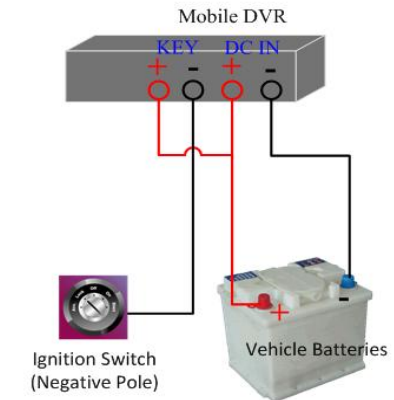

Fig 2.9 KEY connect with negative ignition switch
(2) Connection of Negative Pole Switch (Fig 2.9):